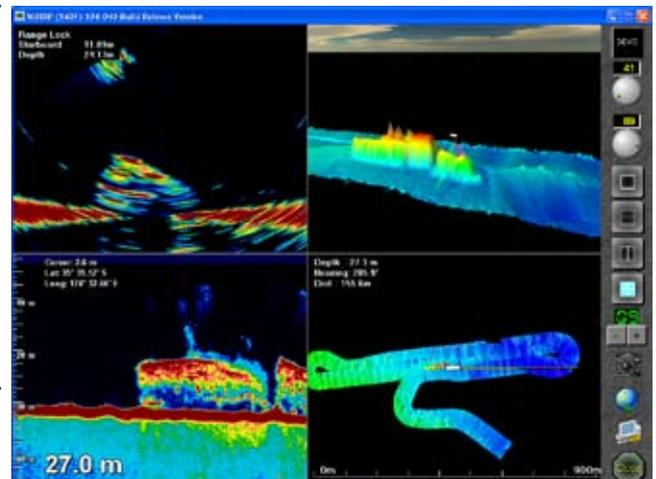

Figure 10 – 4-Screen Layout
**Sonar View** The sonar view shows the water column and seafloor profile below the transducer. This represents a sonar view of the water column and seafloor as seen from behind the vessel. See Figure 10.